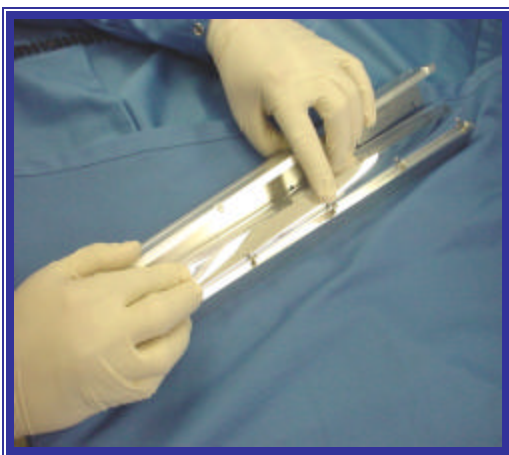

Figure 3a: Closing Out Wrapping Mold Fixture
- 7) While gently guiding the VM2000, close out the mold with its top (PN: B7358) so that the film folds neatly over the aluminum bar. Tighten all hardware, 10 places, to clamp the film in place. (See Figure 3a & 3b.) (Additional c-clamps may be used to increase the clamping force of the mold if necessary.)